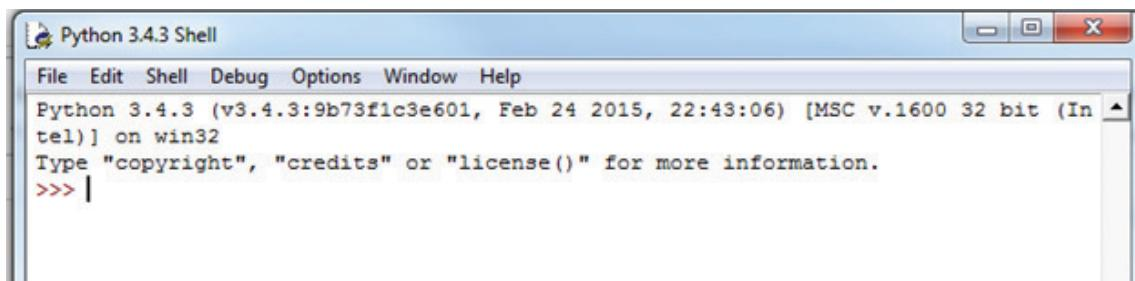

Figure 1-12. Python Shell
6. The Python 3.4.X shell will open and take line by line commands. See Figure 1-12.